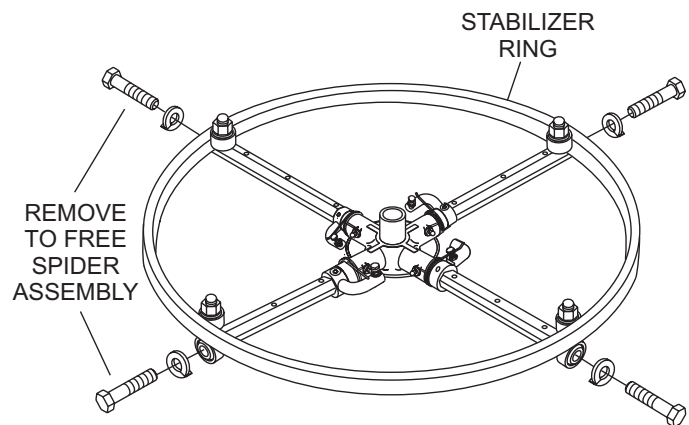

Figure 30. Stabilizer Ring
1. If the trowel is equipped with an outer stabilizer ring (Figure 30), remove the four bolts at the end of each spider arm.